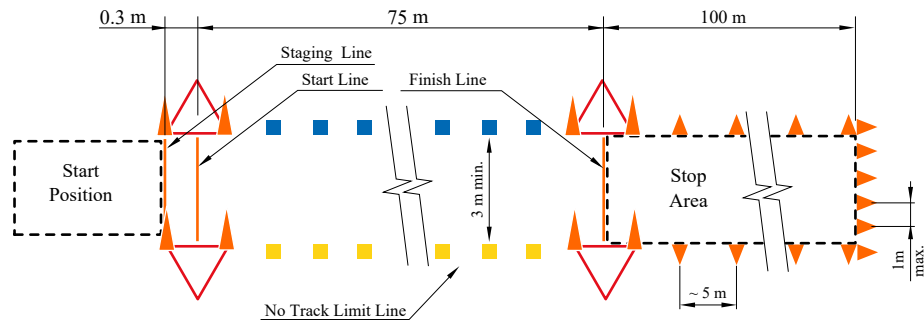

Figure 2: Acceleration
- DE6.2.6 Figures 2, 3 and 4 visualize the track layout descriptions given in D4.3, D5.1, and D8.1.